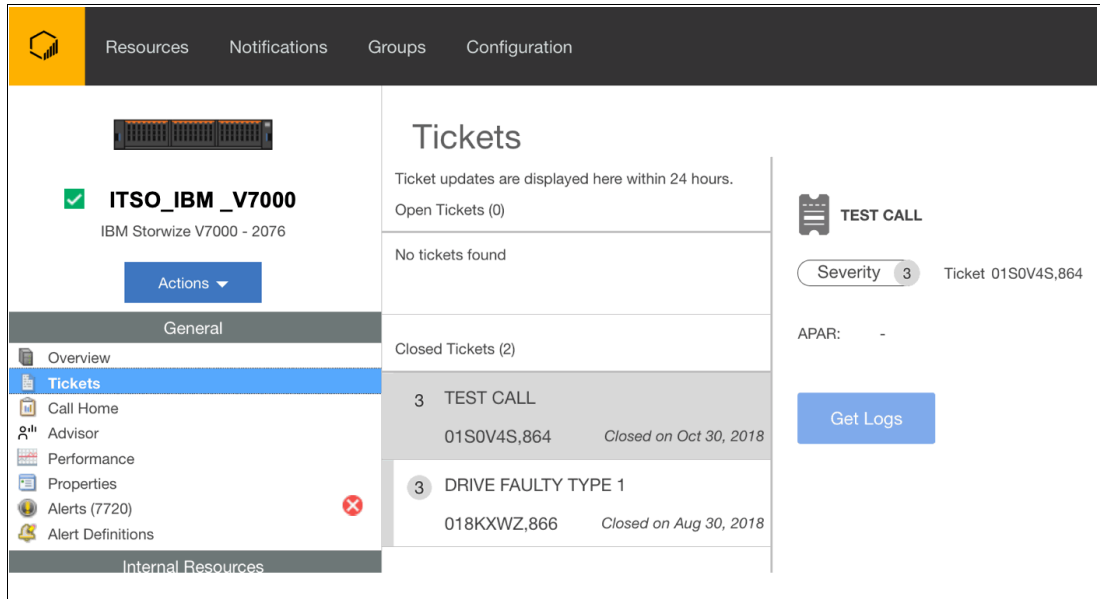

Figure 10-20 Ticket summary
- Figure 10-20 shows how to view the summary of the open and closed ticket numbers for the system selected, using the **Action** menu option.